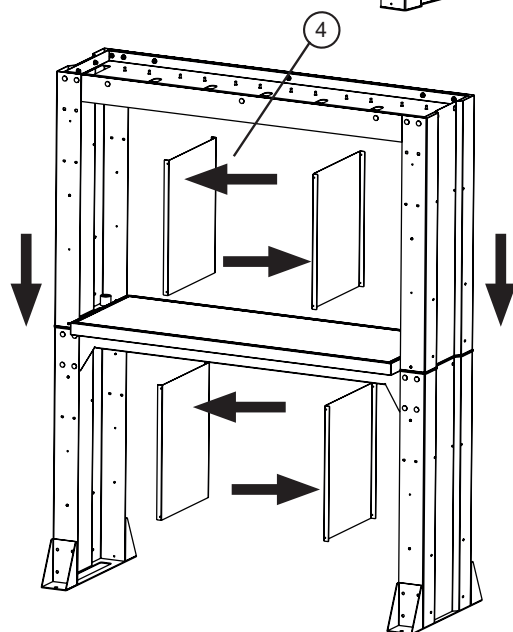

Fig. 3
4. Place and screw firmly the upper assembly to the lower one (see fig. 3).
5. Once the fluid pipes are installed, place the tool holding panels (5) on the sides of the upper and lower supports.
4. Lyft upp gavlarna och monteringsplattan på benen och stödet (fig 3).